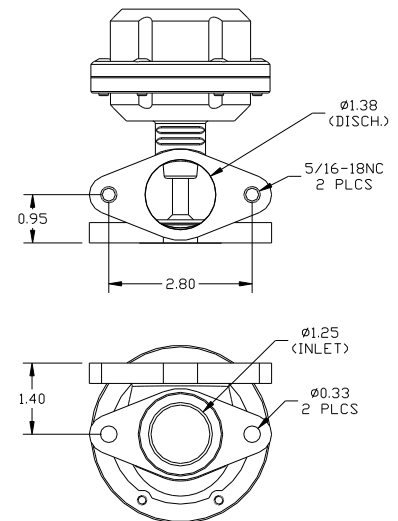

Figure 2:
3. The **Evolution Wastegate** features the same flange-mount inlet and discharge connections as the Deltagate wastegate (refer to Figure 2). A discharge gasket is supplied with the wastegate kit, and no inlet gasket is required, as the floating valve seat acts as the inlet seal. Be sure all mating surfaces are flat and free of irregularities. Once all mounting and discharge routing provisions have been determined and fabricated, install and secure the wastegate with 5/16" diameter fasteners (grade 5 or better recommended) and mechanical locknuts (conventional lockwashers loose their holding power when exposed to high temps). **NOTE:** A variety of mating flanges, fittings and other accessories are available from your nearest Turbonetics distributor (see common accessories list on last page).